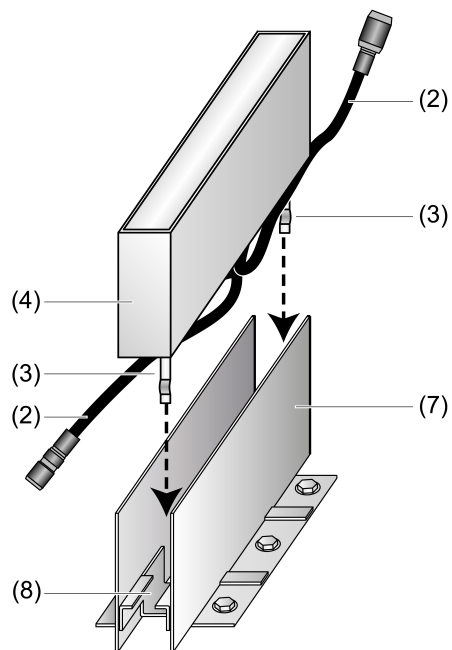

Figure 4: Installing the LED luminaire with wide-spaced retaining springs
- When mounting LED luminaires with wide-spaced retaining springs make sure the connecting cable (2) is always routed besides the retaining springs (3) (Figure 4).
- Place the connecting cable (2) carefully in the groove of supporting strip (8).
- Insert the floor lamp (4) straight into the mounting frame.
- Press the luminaire down until it comes to rest on the supporting strip (8) and until the retaining springs (3) have engaged.